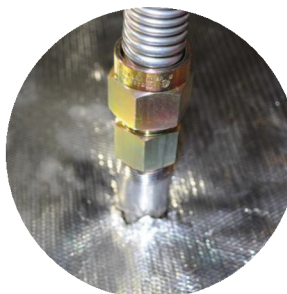

Figure 3
- 5) With the Aluminum side UP, insert the Basalt material over the supply line. Push the Basalt material all the way down until it rests on top of the concrete pad. See Fig. 3.